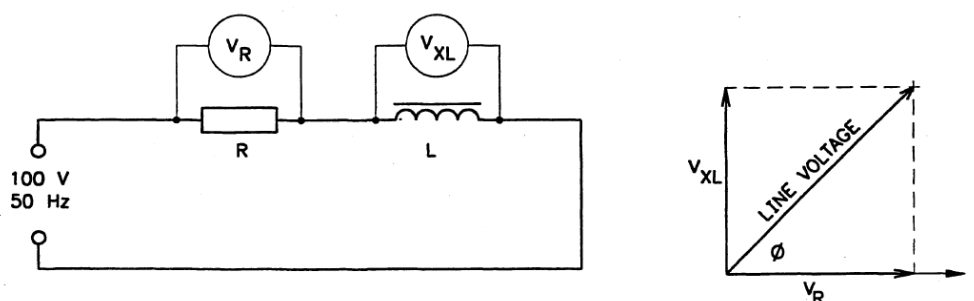
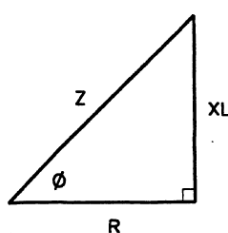

Figure 2 – Voltage phasor diagram for R and L in series
Figure 3 - An impedance triangle for an RL series circuit
- At first glance it may appear as though the total opposition to current flow in the circuit would be the resistance of the resistor plus the inductive reactance of the inductor. However, resistance and reactance cannot be added together directly in series a.c. circuits, because the voltage drops across the components are out of phase with each other. In a.c. series circuits the total opposition to the flow of current in a circuit is known as the impedance (Z), and it is measured in ohms – the same as for parallel circuits.
6. The phasor diagram showing the relationships between the component voltages and the reference line current is shown in Figure 2.
7. The length of the resultant in Figure 2 represents the applied line voltage. This is the phasor sum of V_R and V_L , and the angle between the resultant and the reference phasor represents the phase angle between the line voltage and the line current.
8. Since the current is common to all series components, the phasor diagram in Figure 2 can also be used to represent the values of resistance and inductive reactance. In a series RL circuit, the impedance is the phasor sum of the resistance of the resistor and the inductive reactance of the inductor as shown in Figure 3. The triangle formed by the resistance, inductive reactance and the resulting impedance, is known as an 'impedance triangle'. (The impedance triangle can only be used for SERIES circuits).
12. The phasor diagram in Figure 2 shows the phase relationship between the voltages in the circuit, but it does not show the values of voltage. The voltage drop (or potential difference) across each of the components can be calculated using Ohm's Law.
21. The angle of lag as previously calculated was 45° . Notice that the ratio R to Z on the impedance triangle (Figure 3) is the cosine ratio, so the power factor is the cosine of the angle of lag (or lead).
22. Since the power factor is the cosine of the angle of lag (or lead), and the length of R on the phasor diagram can never be greater than the length of Z, the power factor can never be more than 1. You should also notice that if the resistance of the resistor (R) and the impedance (Z) are equal, the angle of the lag is zero degrees, and the cosine of the angle of lag is 1. A d.c. circuit can be regarded as having a power factor of 1.